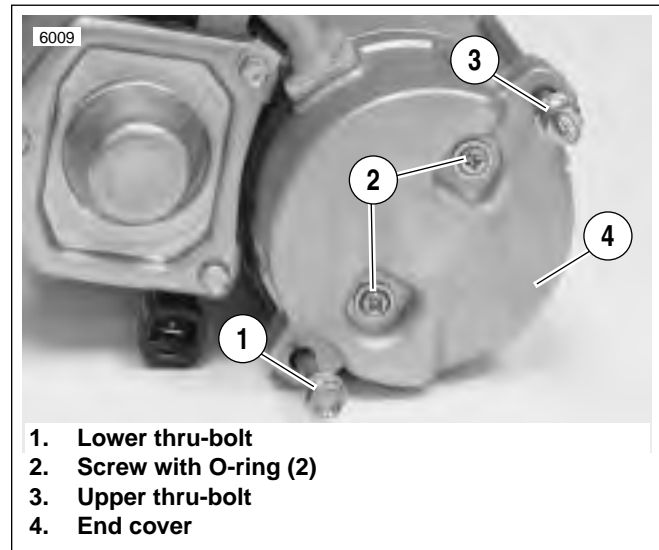

Figure 5-15. Removing the Thru-Bolts
2. See Figure 5-15. Remove both through-bolts (1, 3).
3. Remove both end cover screws with O-rings (2) and end cover (4).